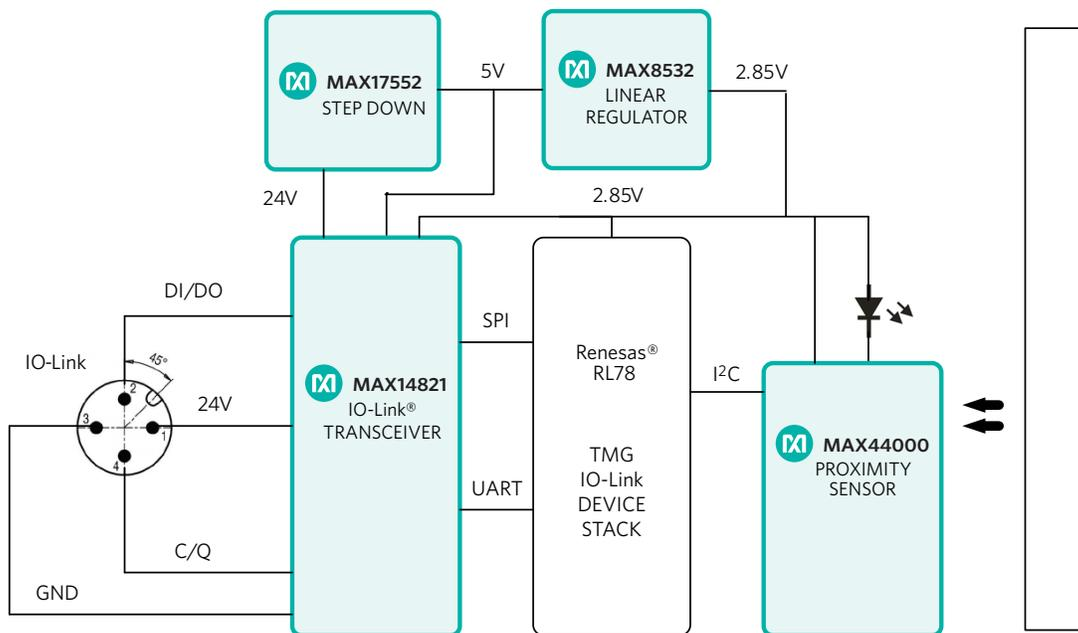

Figure 19. MAXREFDES27 IO-Link Proximity Sensor Block Diagram
The MAXREFDES27 is a tiny IO-Link proximity sensor with an IR receiver, a matching infrared (IR) LED driver, an IO-Link transceiver, and an energy-efficient step-down converter—all on an 8.2mm x 31.5mm printed circuit board (PCB). We collaborated with Technologie Management Gruppe Technologie und Engineering (TMG TE) in designing the MAXREFDES27 as an IO-Link version 1.1/1.0-compliant proximity sensor reference design. The MAXREFDES27 design consists of an industry-standard IO-Link device transceiver (**MAX14821**), a tiny low-dropout linear regulator (**MAX8532**), an efficient high-voltage step-down converter (**MAX17552**), a Renesas ultra-low-power 16-bit microcontroller (RL78) utilizing TMG TE's IO-Link device stack, and a proximity sensor (**MAX44000**) as shown in Figure 19.